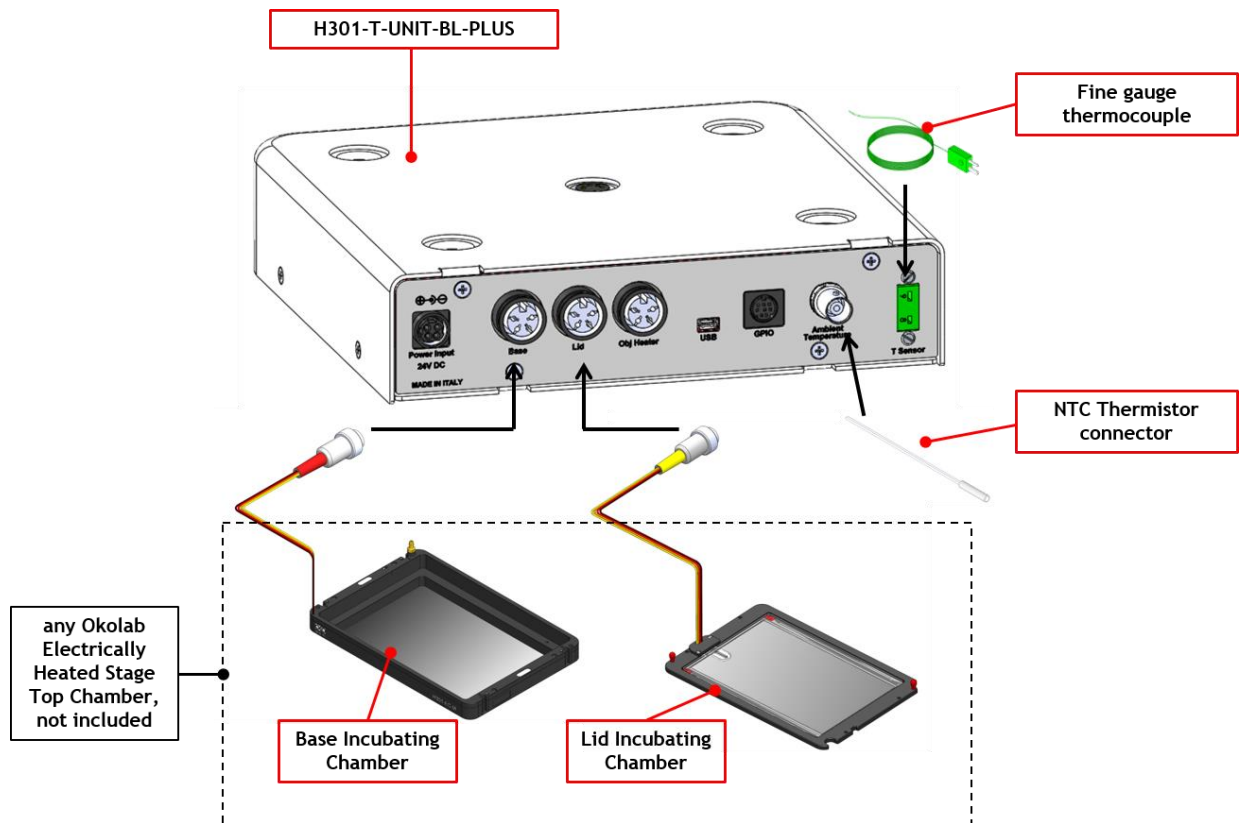

Figure 2. H301-T-BL-PLUS. Standard Connection
1. Connect the base of the incubation chamber to the port labeled ‘Base’ on the rear panel of the Temperature Control Unit (see Figure 2).
2. Connect the lid of the incubation chamber to the port labeled ‘Lid’ on the rear panel of the Temperature Control Unit (see Figure 2).
3. Plug the NTC Connector on the port labeled ‘Ambient Temperature’ located on the rear panel of the Temperature Control Unit (see Figure 2). This temperature sensor must be placed in air close to the illumination pillar in proximity to the microscope stage. This thermistor is monitoring the room temperature.
4. The Fine Gauge Thermocouple (green) plugs into the green port labeled ‘Reference Temperature’ located on the rear panel of the Temperature Control Unit (see Figure 2). When operating the device in ‘Sample Feedback Mode’ place this thermocouple in a Reference Well filled with water. Make sure that the end of the Fine Gauge Thermocouple is fully immersed.